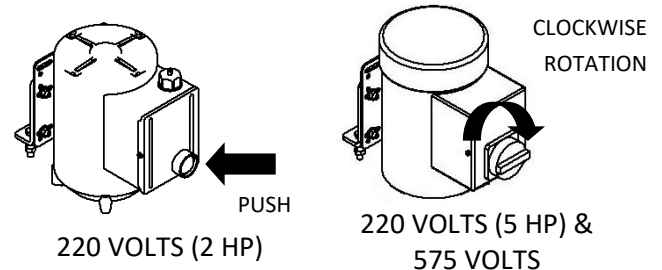

FIGURE 17 : POWER UNIT ACTIVATION
5. ACTIVATE THE HYDRAULIC UNIT TO RAISE THE TYPICAL VEHICLE TO 1" ABOVE THE GROUND. SEE **FIGURE 17**.